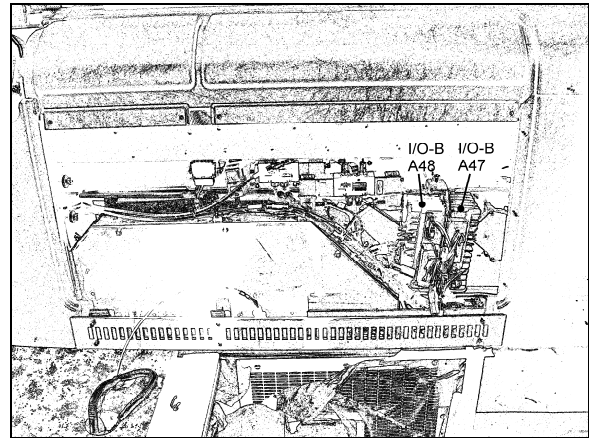

FIGURE 16: ENTRANCE DOOR & WIPER CONTROL PANEL
- At the top of windshield, clean surface between fiberglass and rubber extrusion using Sika 205 (Fig. 16).
An air operated “bi-fold type” entrance door, with an air door cylinder and damper assembly installed under the right hand dash for the R.H. door panel opening. Another air door cylinder is installed behind the wall to the right of the first curb-side passengers’ seat for the L.H. door panel opening. The opening and closing door speed cycle is adjustable by a damper mounted in parallel with the R.H. door panel cylinder on the door hinge. Door activation is controlled by a panel (Fig. 16), located near the defroster and wiper motors. The accessory air reservoir supplies air to this system.